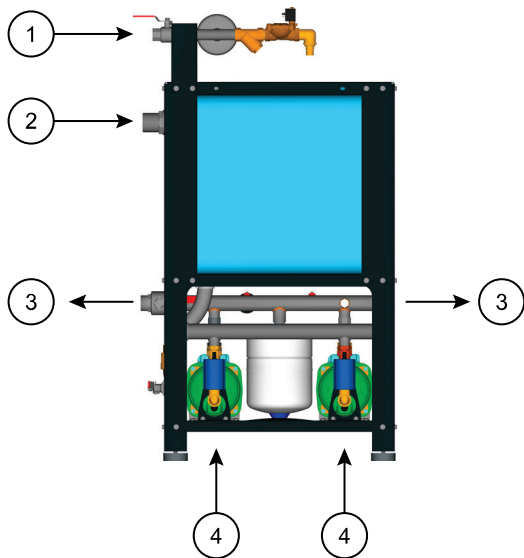

Fig. 3
Place the AQUATWIN TOP in a well ventilated place, protected from unfavorable weather conditions, and with an environment temperature not higher than 40°C, on an even surface; if this is not possible, use the adjustable vibration-damping feet (ref.1 Fig.1). After having positioned and stabilized the AQUATWIN TOP, make the connection to the water mains with a 1" pipe connected to the interception valve provided (ref.1.fig.3).
**Connect the intakes** (ref.4. fig.3) to the pipes arriving from the rain water storage tanks, paying particular attention that they are inclined towards the tank to avoid the formation of air pockets (avoid swan necks, the pipes must never pass over the pumps), avoid letting the pipes exert forces on the intake mouths. Install the system as close as possible to the rain water collection tank, to ensure a good yield of the pump it must never exceed a suction length of 20 meters and a height of 3 meters. If the suction length and height are greater, use another pump connected in series to the system pump to overcome the system suction problem.
**Connect the overflow** with a 2" pipe (ref.2 fig.3), this pipe must be directed towards a drain to avoid flooding in the event of malfunction or overflowing of the system.